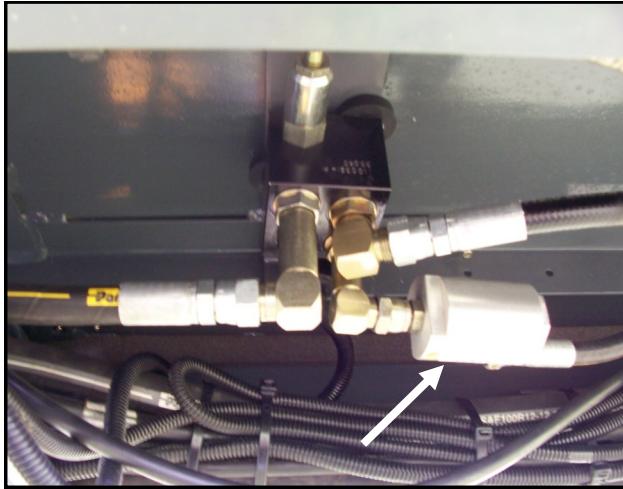
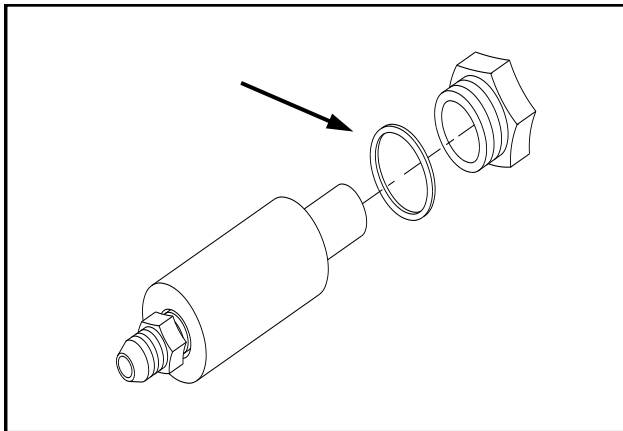

FIG 7.22
FIG 7.23
**LIFT/DUMP VALES** - The valves of the lift control valve system are protected by a 90 Micron in-line sintered bronze filter (fig. 7.22.). When the filter element is removed for cleaning, caution should be taken so the gasket is in the proper place when reinstalling (fig. 7.23.). Also, reinstall filter paying attention to direction of flow so the end marked "OUT" is oriented correctly.